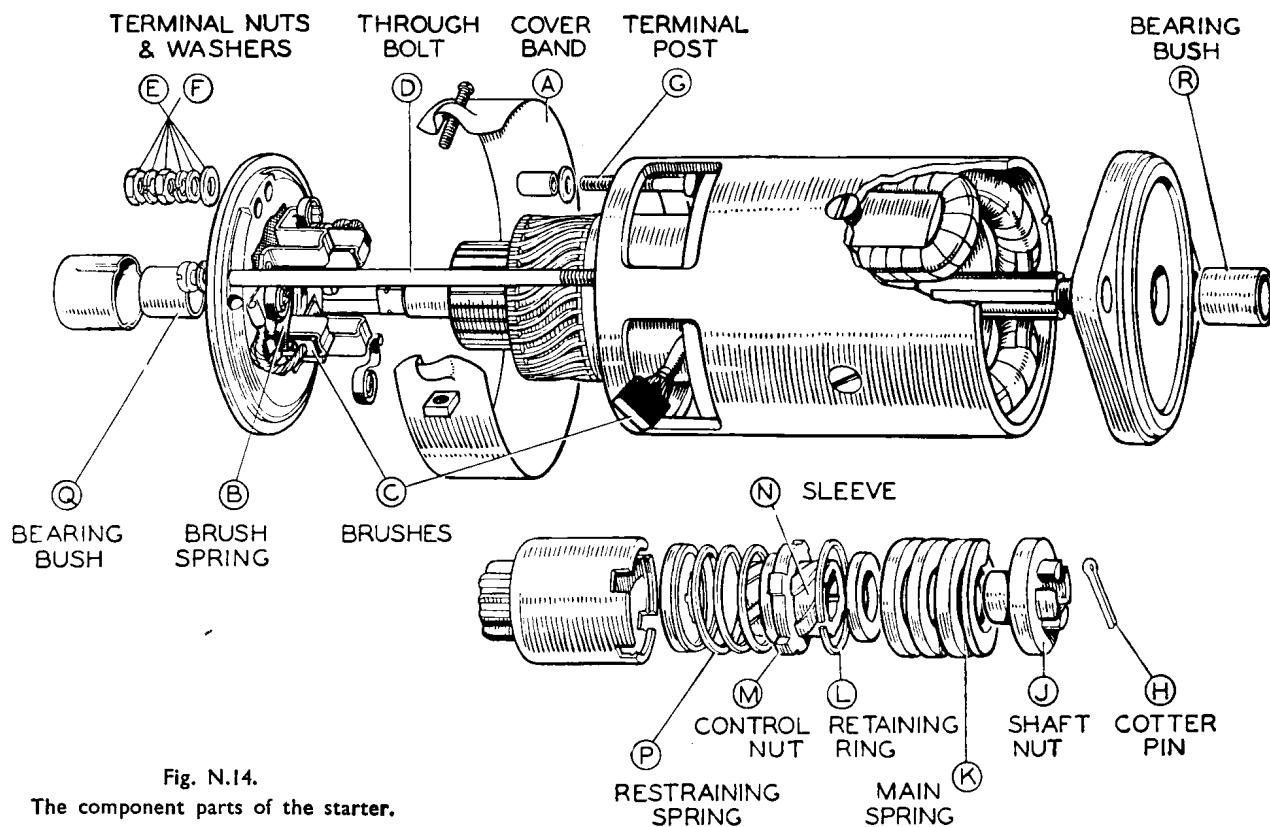

Fig. N.14.
- (c) Remove the split pin "H" (Fig. N.14) from the shaft nut at the end of the starter drive. Hold the squared end of the starter shaft at the commutator end by means of a spanner and unscrew the shaft nut "J."
- (d) Lift off the main spring "K" (Fig. N.14) and remove the retaining ring "L."